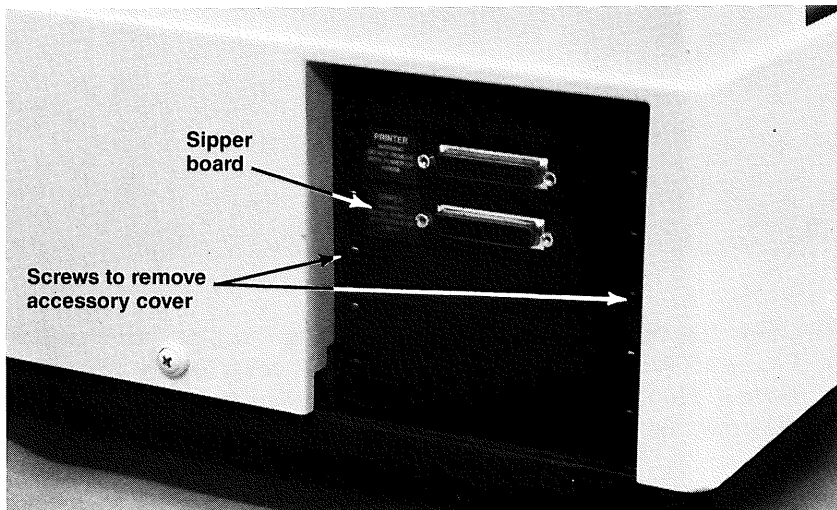

Figure 7.
7. Check the accessory slots on the left-hand side of the instrument to see if a board labelled "SIPPER" is installed. See Figure 7. If it is, go to step 12.
9. Remove one of the accessory covers using a Phillips screwdriver. Save the two screws. See Figure 7.